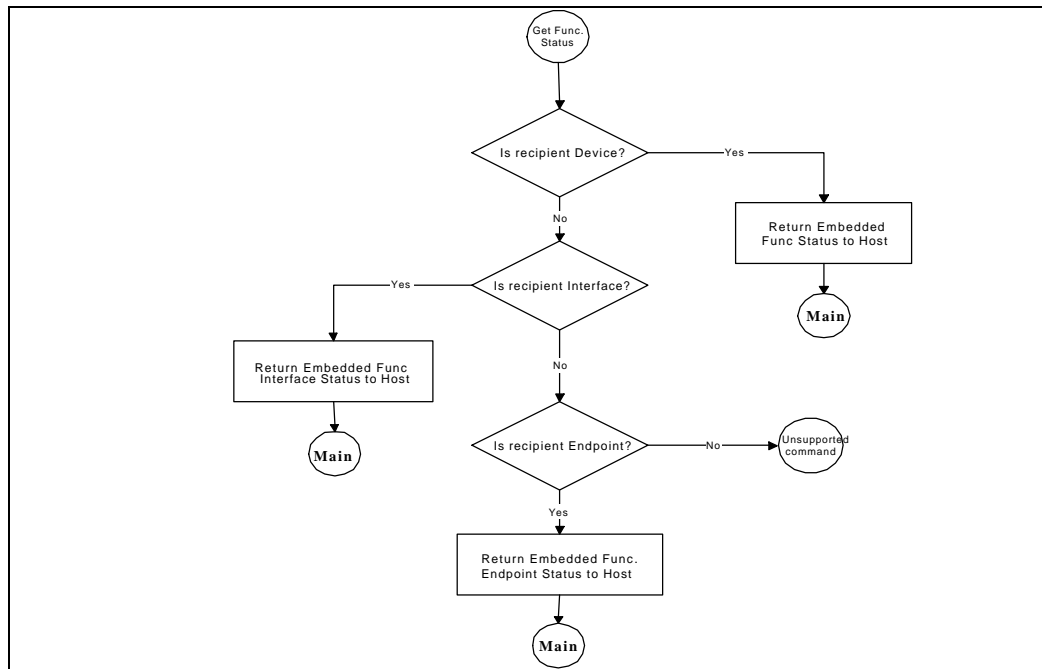

Figure 25: Embedded Function Get Status Standard Command
- Get Function Status (Figure 25)